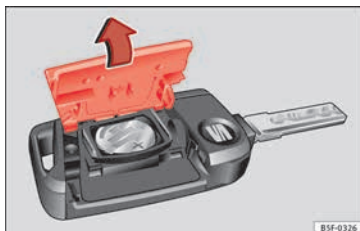

Fig. 132 Vehicle key: opening the battery compartment
- Remove the cover from the back of the vehicle key » **Fig. 132** in the direction of the arrow » **❶.**
- Fit the cover as shown » **Fig. 132**, pressing it onto the vehicle key casing in the opposite direction to that shown by the arrow until it clicks into place.
❶ CAUTION